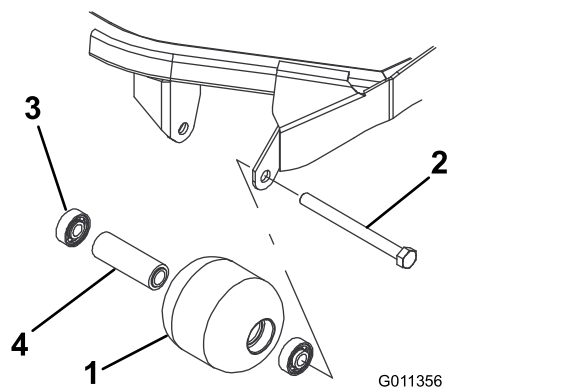

Figure 80
1. Remove the roller-mounting bolt (Figure 80).
4. Inspect the roller housing, bearings, and bearing spacer for damage (Figure 80).
1. Press the first bearing into the roller housing (Figure 80). Press on the outer race only or equally on the inner and outer race.
2. Insert the spacer (Figure 80).
3. Press the second bearing into the roller housing (Figure 80) pressing equally on the inner and outer race until the inner race comes in contact with the spacer.